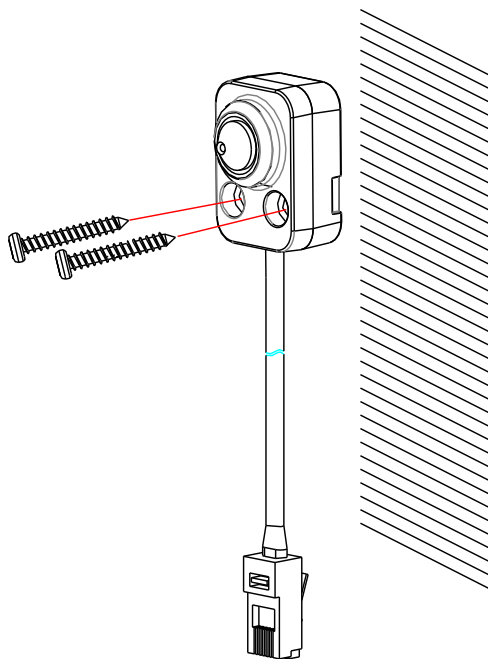

Figure 4-49 Fix the Block-shaped Sensor Unit
1. Fix the Block-shaped sensor unit on the mounting surface with screws. As shown in Figure 4-49.